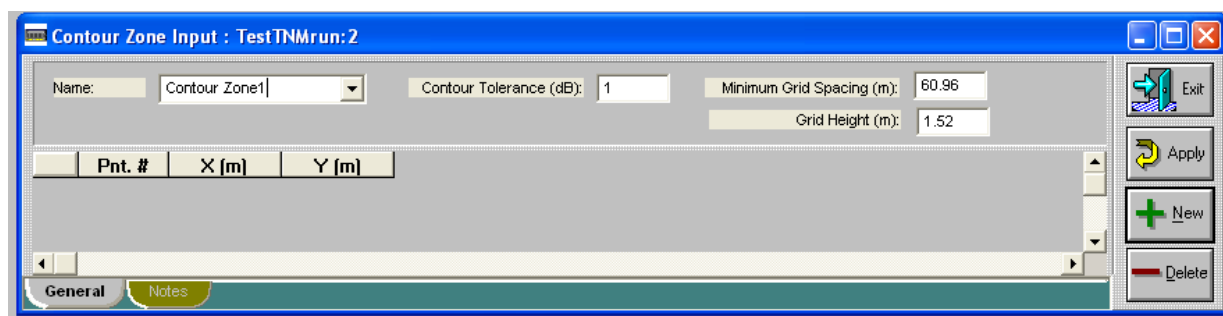

Figure 48. Contour-zone input: General tab.
2. Select **General** on the contour-zone input dialog (see Figure 48).